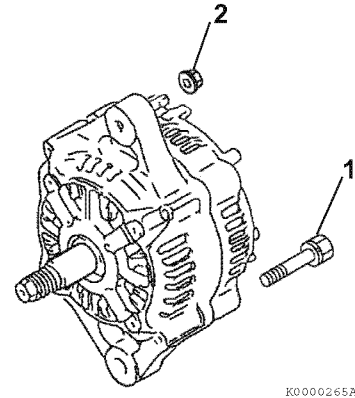

Figure 11-15
- Align the front frame housing with the rear frame housing. Reinstall the two bolts (**Figure 11-15, (1)**) and two nuts (**Figure 11-15, (2)**).